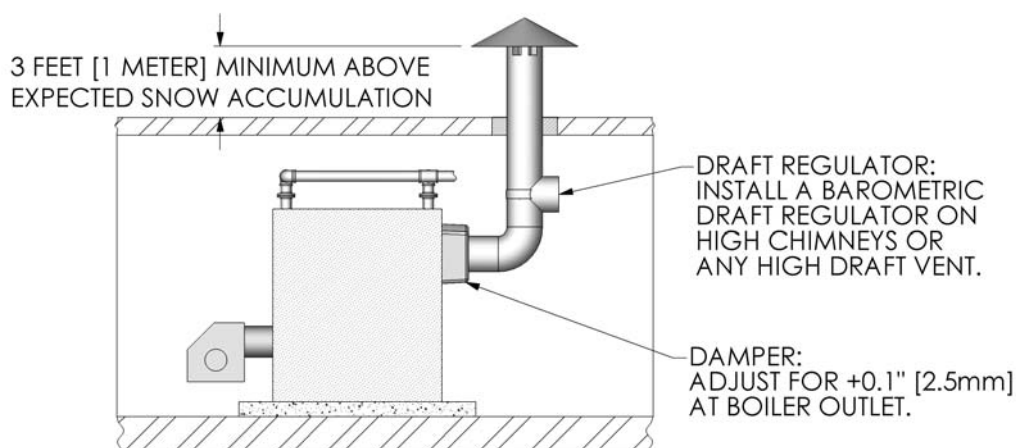

Figure 1.3: Typical Vent Termination
1. Vent terminations must be extended to three feet above expected snow accumulation. See Figure 1.3.